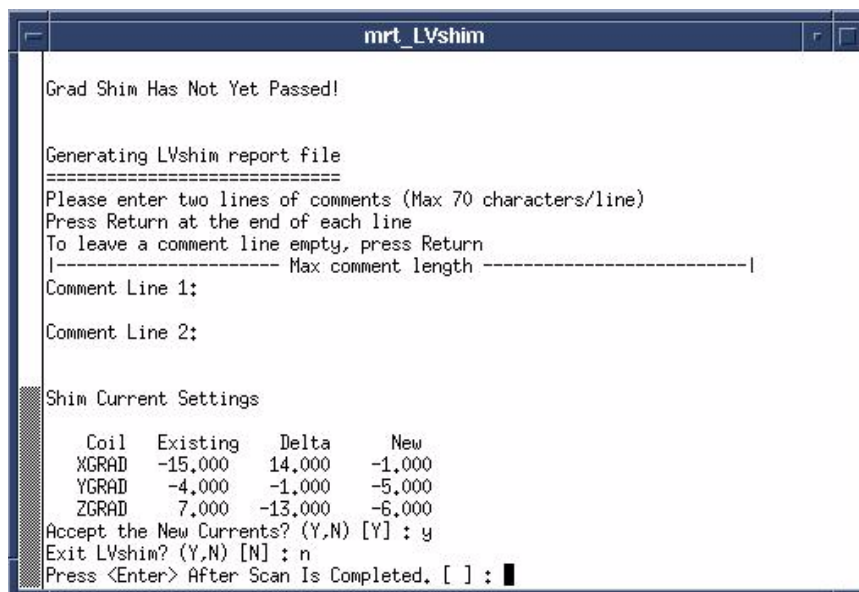

Figure 21
7. Return to the Scan Prescription page, and click the [Scan] button. When scans are complete, return to the LVShim tool and press the [Enter] key. See Figure 21.